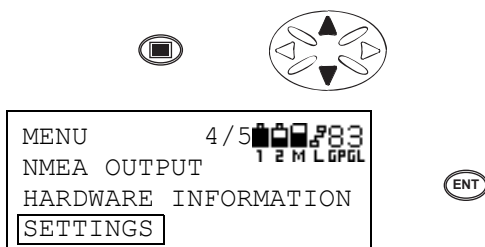

Figure 3-133. Initiate Menu Mode, Scroll to Settings, Press Enter
1. Press the **menu** key to enter the menu mode. Press the **up/down cursor key** to select SETTINGS and press **ENT** (Figure 3-133).